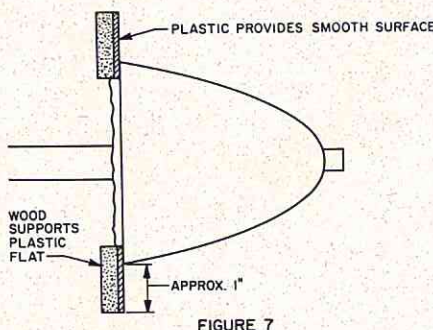

FIGURE 7
- g) Remove pattern from lathe. Cut a ring of 1/16" styrene sheet, about 1 1/4" wide, to fit rear cut. Then cut a similar ring from 1/4" balsa. See Fig. 7.